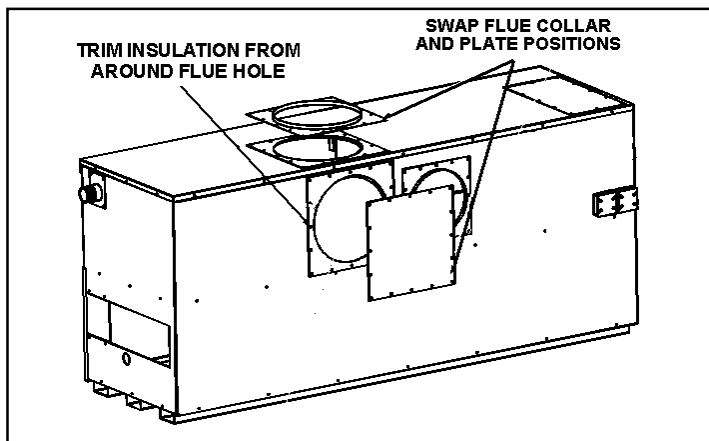

Figure 4. Switching from Vertical to Horizontal Venting.
2. Trim the insulation from around the rear flue hole in the jacket and the fluebox. Support insulation from inside the fluebox to facilitate cutting. Use safety precautions such as gloves. Place the gasket and vent adaptor in the horizontal position. Place the gasket and flue plate in the vertical position as shown in Figure 4.